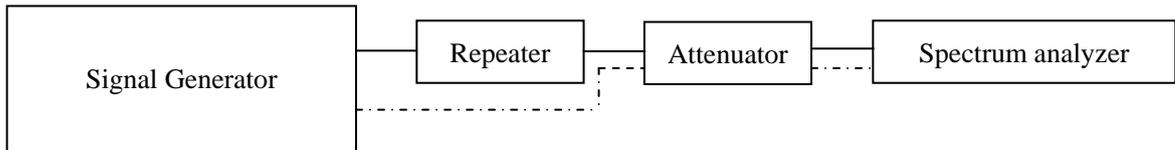

figure 4.3.1
1. Connect testing system according to figure 4.3.1(make the calibration according to the dotted line before test);
1. Connect testing system according to the real line in figure 4.3.1;
1. Connect testing system according to the real line in fig4.3.1;
6. Connect testing system according to the real line in figure 4.3.1 (the dotted line is a figure showing the connection in calibrated testing system);
1. Connect the testing system according to the figure 4.3.1;
1. Connect the testing system according to the real line 1n figure 4.3.1;